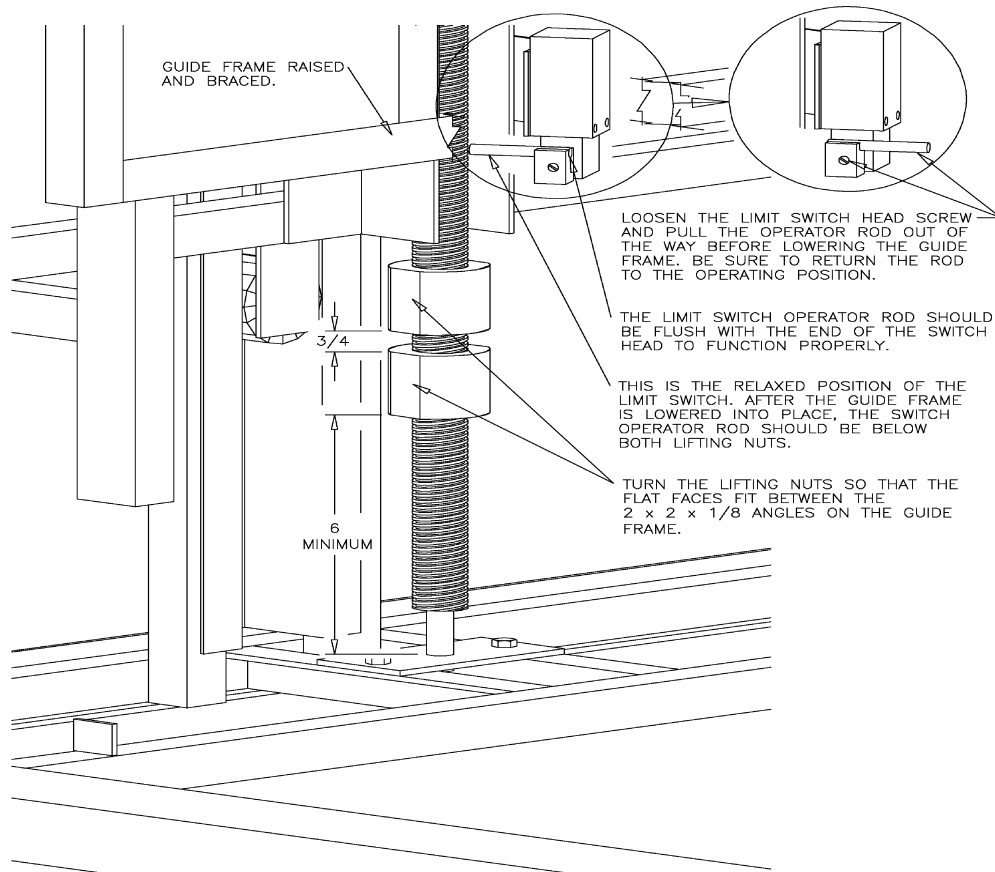

Figure 5. Adjusting the lifting nuts.
In the event that the lifting nuts move down past the lower limit switch you may hear a loud snap indicating that the shear pin has broken. Use the following procedure to put them back into place (Fig. 5):
- Spin the lifting nuts into place as per Fig. 5, make sure that the flat sides of the lifting nuts fit between the guide frame bracket angles.